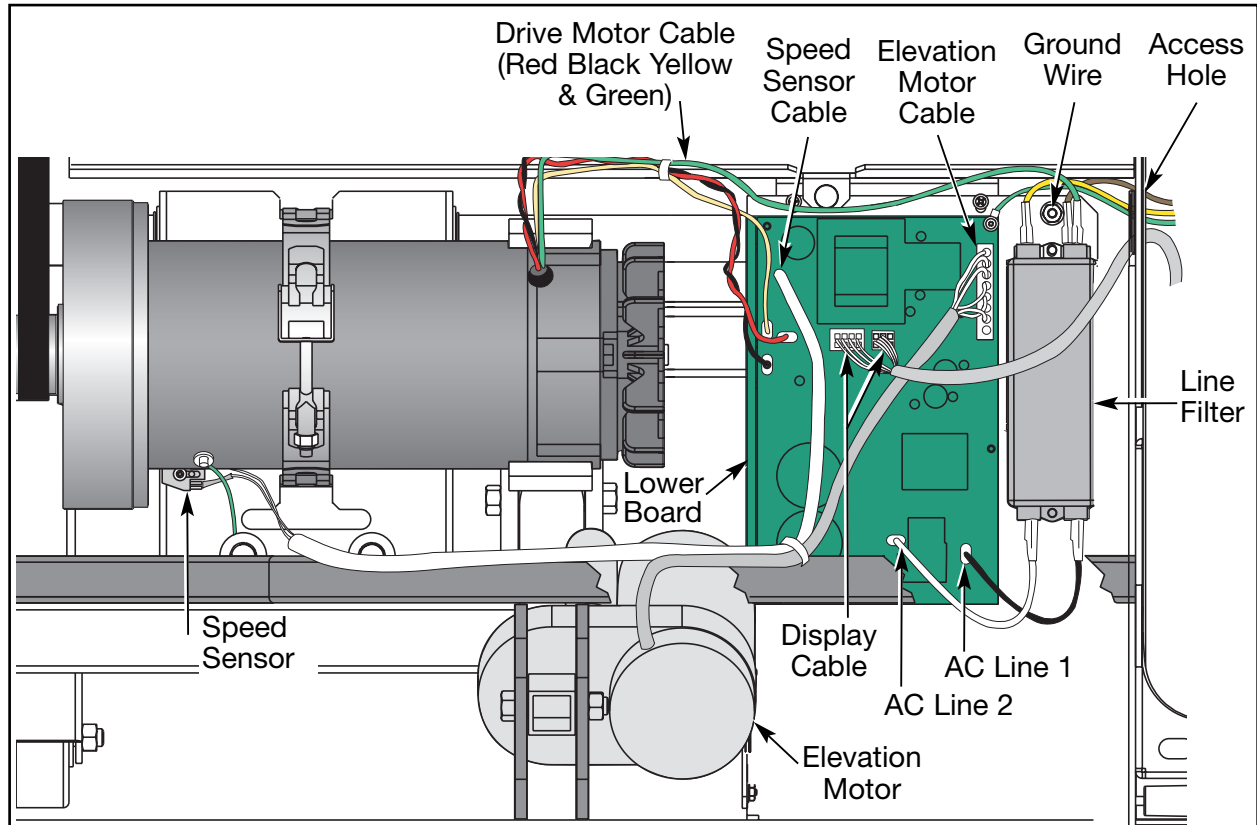

Figure 16
- A. Connect the cables to the lower control board. This includes: the elevation motor cable; display cable (P1 and P2); AC line 1 (black); AC line 2 (white); drive motor (black, red, yellow) and speed sensor cable. See Figure 16.